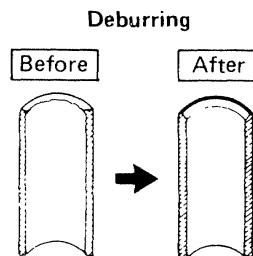

Fig. 23
- b) Remove burrs at the end of the copper pipe with a pipe reamer or a file. This process is important and should be done carefully to make a good flare. Fig. 23